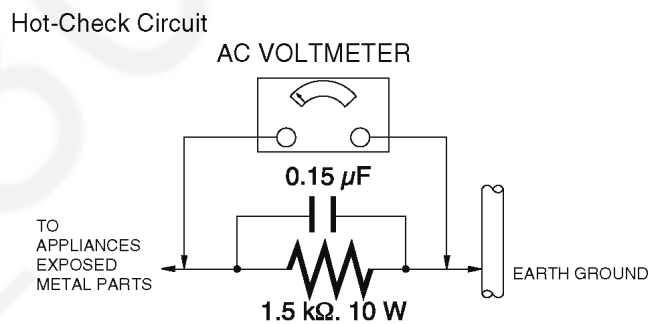

Figure. 1
1.3. Leakage Current Hot Check (See Figure. 1)
2. Connect a 1.5 k Ω , 10 W resistor, in parallel with a 0.15 μ F capacitor, between each exposed metallic part on the set and a good earth ground, as shown in Figure. 1.